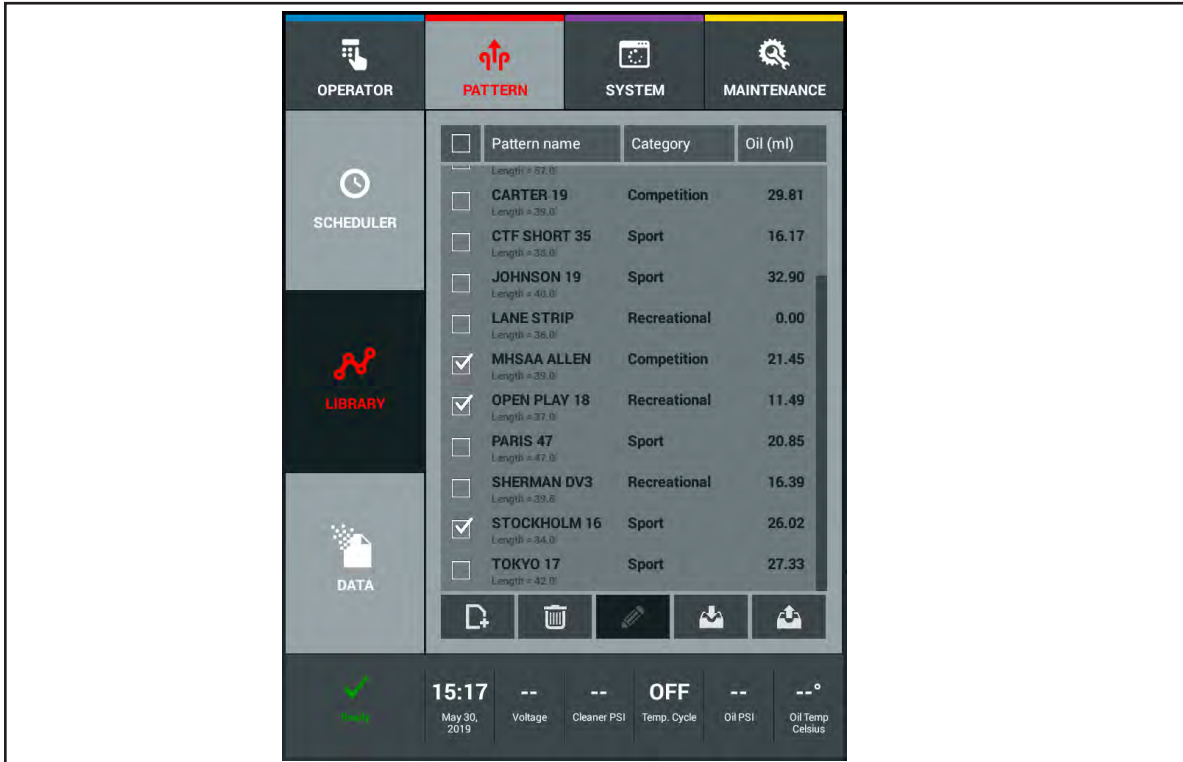

Figure 4-21. Export To Brunswick Cloud
2. Select patterns to Export by touching the check box located to the left of the pattern name and the “Export” icon will highlight. Refer to *Figure 4-21*.
2. Press the highlighted “Import” button on the tablet. Refer to *Figure 4-21*